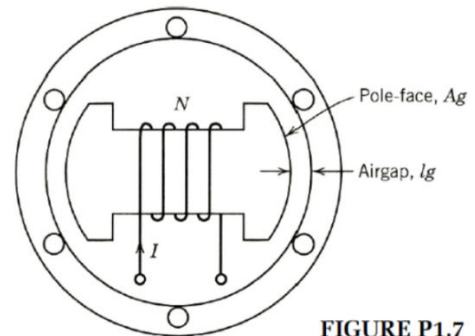

FIGURE P1.7
- 1.7** A two-pole synchronous machine, as shown in Fig. P1.7, has the following dimensions: